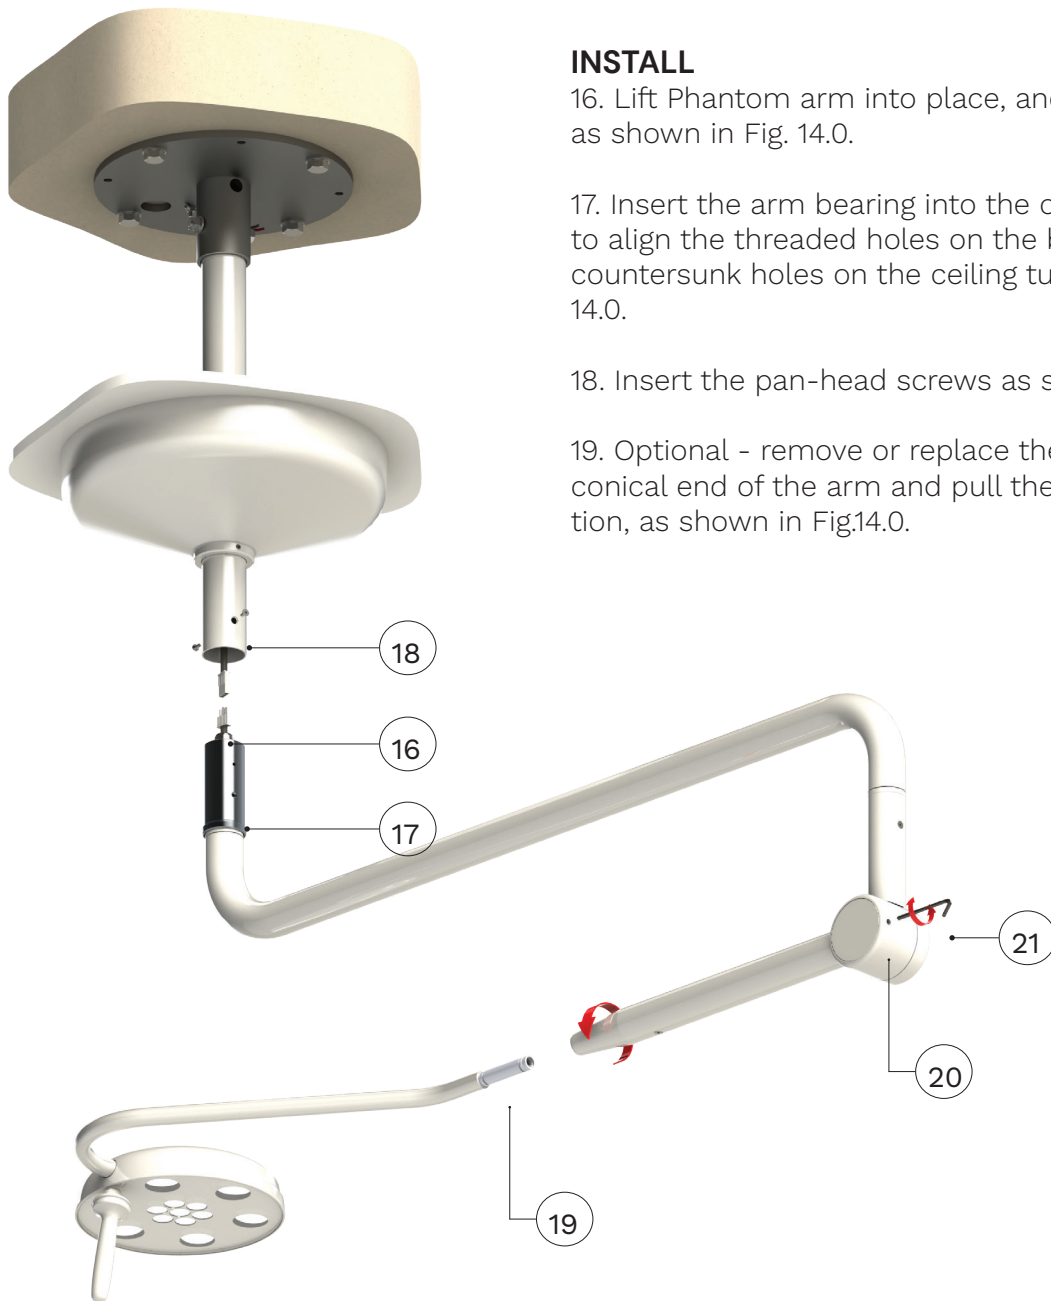

Fig. 14.0
20. Unscrew the end cap for access to the spring balance adjustment, as shown in Fig. 14.0.
21. Adjust the spring balance: using a 4mm allen key, adjust the screw inside the knuckle. Clockwise/ Tightening the screw will cause heavier engagement of the spring - this will improve 'head droop'. Anti-clockwise/loosening the spring balance will fix a 'rising head' issue, as shown in Fig. 14.0.